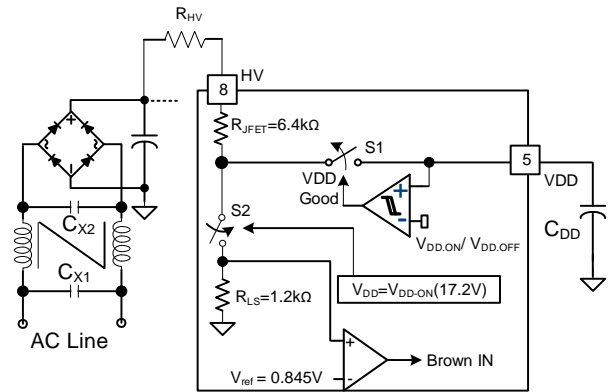
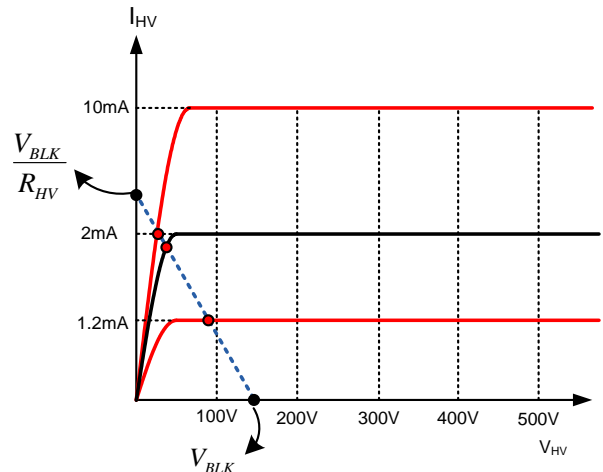

Figure 31 HV Startup Circuit
Figure 32 Characteristics of HV pin
Figure 31 shows the high-voltage (HV) startup circuit. An Internal JFET provides a high voltage current source, whose characteristics are shown in Figure 32. To improve reliability and surge immunity, it is typical to use a R_{HV} resistor between the HV pin and the bulk capacitor voltage. The actual current flowing into the HV pin at a given bulk capacitor voltage and startup resistor value is determined by the intersection point of characteristics I-V line and the load line as shown in Figure 32.
During startup, the internal startup circuit is enabled and the bulk capacitor voltage supplies the current, I_{HV} , to charge the hold-up capacitor, C_{VDD} , through R_{HV} . When the V_{DD} voltage reaches V_{DD-ON} , the sampling circuit shown in Figure 31 is turned on for t_{HV-det} (100 μ s) to sample the bulk capacitor voltage. Voltage across R_{LS} is compared with reference which generates a signal to start switching. If brown-in condition is not detected within this time, switching does not start. Equation 8 can be used to program the brown-in of the system. If line voltage is lower than the programmed brown-in voltage, FAN604S goes in auto-restart mode.